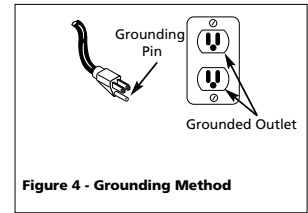

Figure 4 - Grounding Method
3. This product is for use on a nominal 120 volt circuit and has a grounding plug that looks like the plug illustrated in Fig. 4. Make sure the product is connected to an outlet having the same configuration as the plug. This product must be